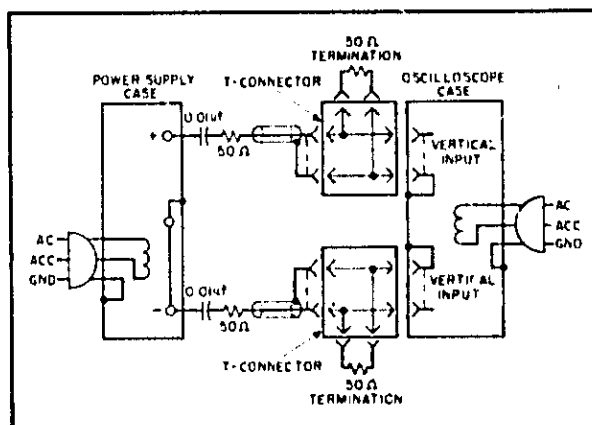

Figure 5-5. CV Noise Spike Test Setup
- As shown in Figure 5-5, two coax cables, must be substituted for the shielded two-wire cable.
5-31 The circuit of Figure 5-5 can also be used for the normal measurement of low frequency ripple and noise; simply remove the four terminating resistors and the blocking capacitors and substitute a higher gain vertical plug-in in place of the wide-band plug-in required for spike measurements. Notice that with these changes, Figure 5-5 becomes a two-cable version if Figure 5-4C.